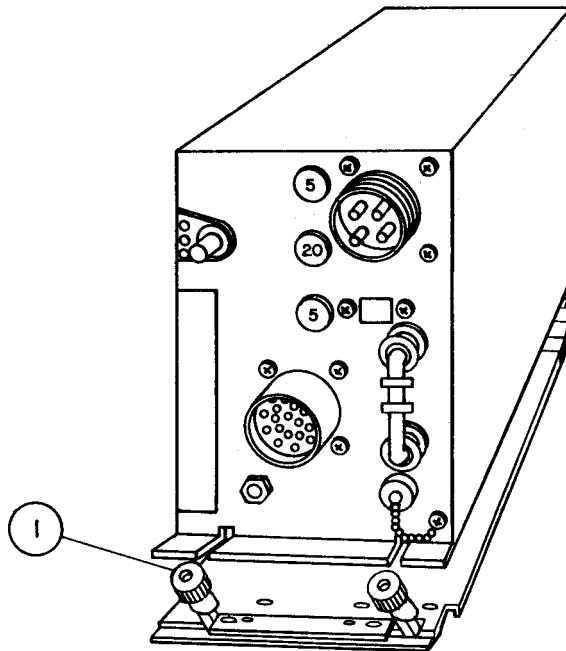
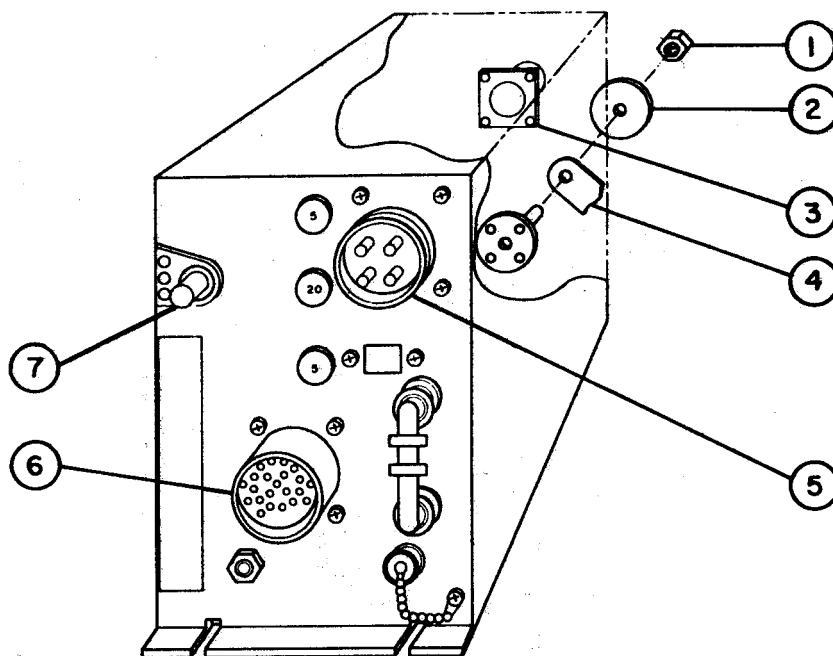

Figure 3-3. Amplifier-Coupler Fasteners
Figure 3-4. Amplifier-Coupler, Connectors
1. Refer to figure 3-3. Loosen the two fluted nuts on the fasteners (1) securing the amplifier-coupler.
2. Refer to figure 3-4. Remove cable connectors from J9725 (3), J9724 (6), J9721 (7), and J9726 (5).
3. Remove nut (1) and washer (2) securing ground strap (4) to rear of amplifier-coupler and remove ground strap.
1. Refer to figure 3-4. Place the amplifier-coupler in its mounting location.
2. Attach ground strap (4) to rear of amplifier-coupler using the washer (2) and nut (1).
3. Attach cable connectors to J9725 (3), J9724 (6), J9721 (7), and J9726 (5).
4. Refer to figure 3-3. Tighten two fluted nuts on fasteners (1) to secure the amplifier-coupler in its mounting location.